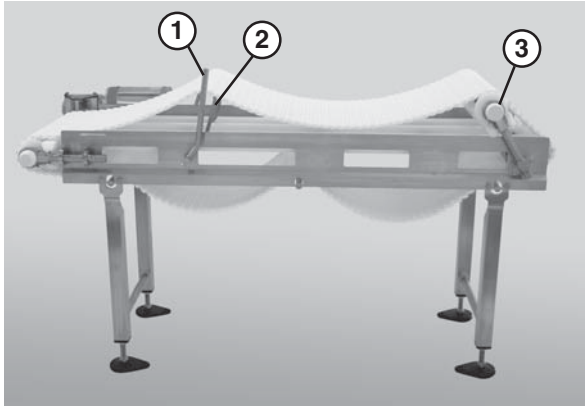

Figure 42
2. Use the lifter handle (**Figure 42, item 1**) to raise the lifters (**Figure 42, item 2**) and raise the tip up tail (**Figure 42, item 3**).